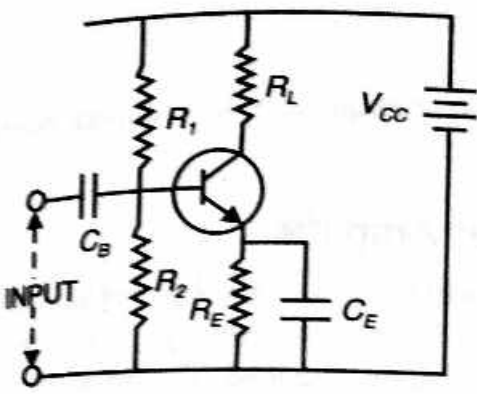
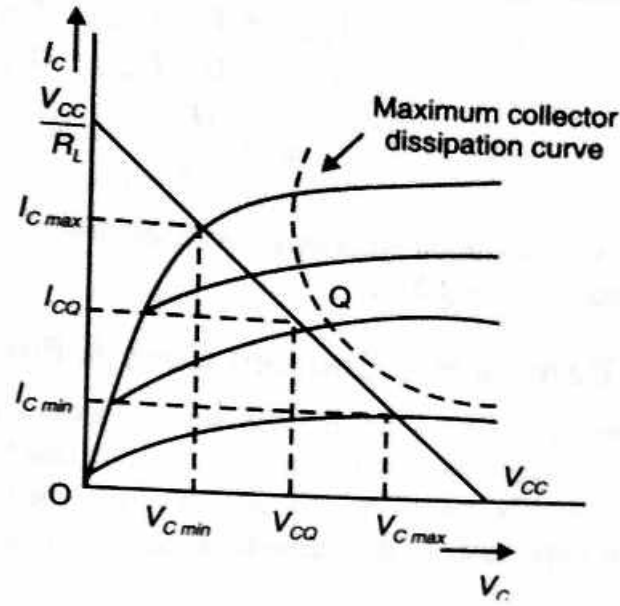

Fig. 36.11
Fig. 36.12
Figure 36.11 shows a typical *class A transistor power amplifier* operating in the common emitter mode. Here resistors  $R_1$  and  $R_2$  form voltage divider circuit to provide forward biasing of the emitter-base junction.  $R_E$  is the emitter resistor for bias stabilisation and  $C_E$  is the emitter bypass capacitor which prevents the a.c. voltages from appearing across  $R_E$ . The capacitor  $C_B$  is called 'Blocking capacitor'. It is used to block d.c. component of the input signal so that only a.c. signal reaches the base. The amplifier is directly coupled to the load resistance  $R_L$ .
The collector characteristics of the transistor used in Fig. 36.11 is shown in Fig. 36.12. The load line corresponding to  $R_L$  is drawn on the characteristics. The operating point  $Q$  is selected in almost the middle of a.c. load line.
**Efficiency:** The curves, in Fig. 36.12, show the voltage and current values at saturation and cut-off. In saturation stage, collector current is maximum and collector voltage is minimum. In cut-off stage, voltage is maximum and current is minimum. We denote voltage and current at saturation by  $V_{Cmin}$  and  $I_{Cmax}$  while these quantities at cut-off are denoted by  $V_{Cmax}$  and  $I_{Cmin}$  and at  $Q$ -point are  $V_{CQ}$  and  $I_{CQ}$ .